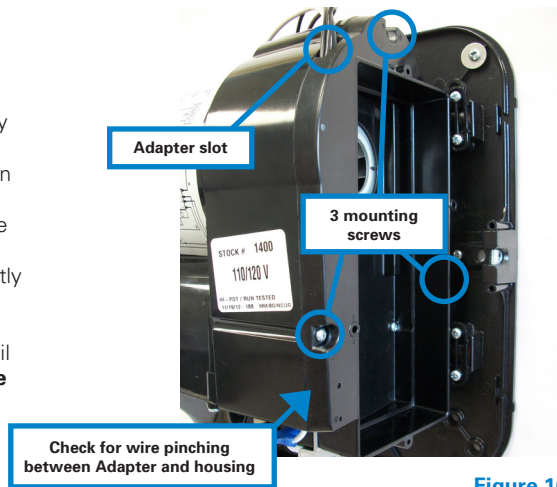

Figure 9
9. Attach Control Harness Connector to Control and route wires as shown in Figure 9. Make sure wires are installed under white clip on adapter. Connect green wire back on quick connect tab on bracket. Reconnect sensor to Control. (Figure 9)